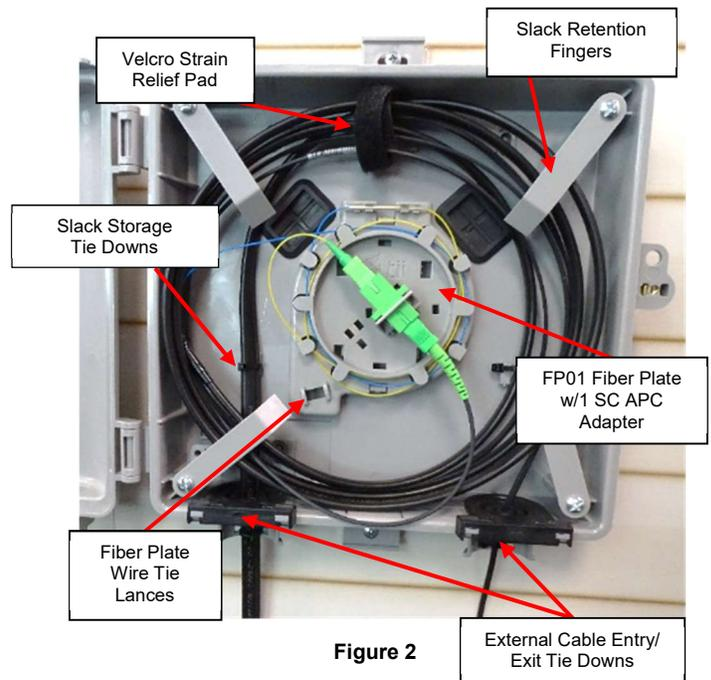

Figure 2
3. Secure slack fiber to the Slack Storage Tie Downs inside of the enclosure (figure 2).